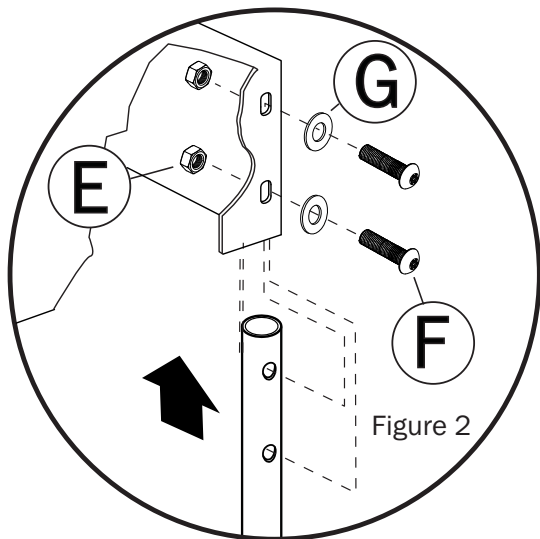

Figure 2
3. Align slots on side of ADA Step(A) with holes in Extension Post(B) and insert (2)Bolts(F) and (2)Flat Washers(G) through holes in ADA Step(A), through Footer Post(B) and secure with Lock Nut(E). See Figure 2.
3. With arm of Panel Clamp(B) pointing inward and flat side of arm facing toward Window Panel(A), align holes in Panel Clamp(B) with holes in Barrier Panel(A). Insert Bolt(H) into Panel Clamp(B), through Barrier Panel(A) and secure with Flat Washer(I) and Lock Nut(G). See Figure 2.